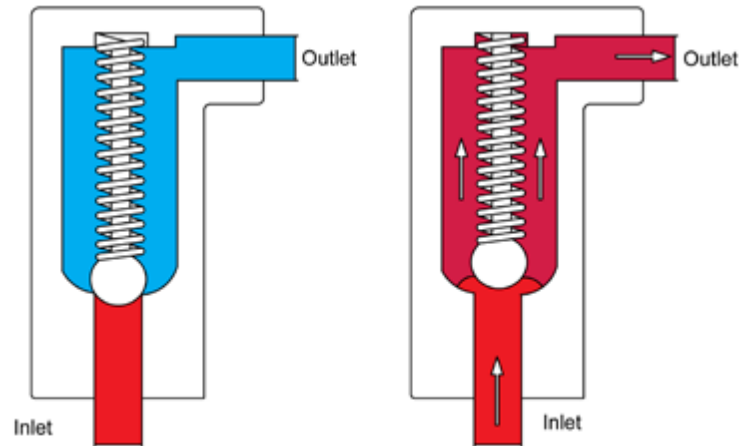

Figure 1-16 Direct acting relief valves
When a relief valve is needed for large volumes with little pressure differential, a pilot operated relief valve is often used. The pilot valve is a “trigger” which controls the main relief valve. It is usually a small, spring loaded relief valve built into the main relief valve. The main relief valve is closed when inlet oil pressure is below the valve setting. In (Figure 1-16) Passage (1) in the main valve (6) keeps it in hydraulic balance, while spring (5) holds it closed. The pilot valve (3) is also closed at this time. Inlet pressure through sensing passage (2) is less than the pilot valve setting.